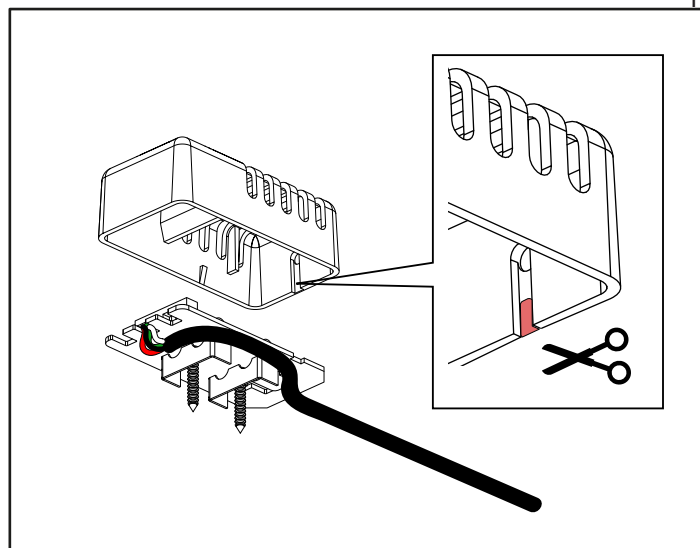

Figure 16: Visible routing on the wall, cut an opening in the cover.
12. Install the sensor in the ceiling, according to the safety regulations, see Figure 3. The thermistor wire may also be passed through the wall. Seal any holes in the wall behind the sensor. The thermistor wire may be extended outside the sauna using low voltage wire (4-lead). For surface-mounted cabling, see Figure 16.